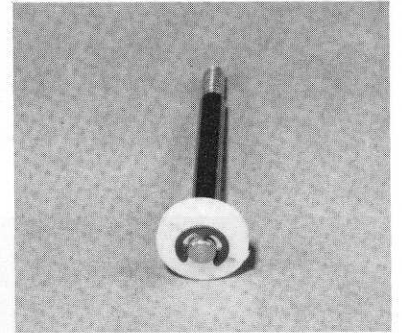

**Fig. 105**
□ **Fig. 105 & 106** It's easier to build all four shocks at the same time, so take all four of the #6459 and #6458 shafts and install one of the E-clips on each shaft, as shown. The shock parts are in Bags 7-9 and 7-10.